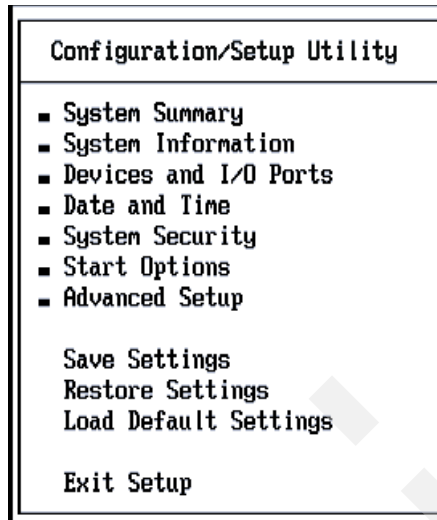

Figure 20-10 BIOS configuration menu
2. Press F1 on bootup to enter the BIOS configuration menu, as shown in Figure 20-10.